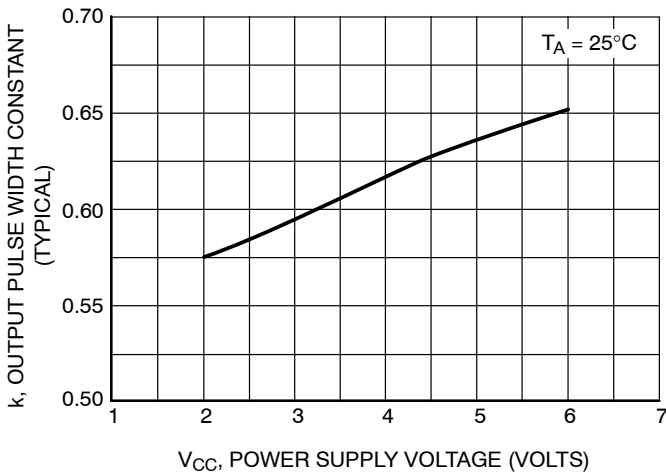

Figure 3. Typical Output Pulse Width Constant, k, versus Supply Voltage
*For output pulse widths greater than 100 μ s, typically $\tau = kR_xC_x$, where the value of k may be found in Figure 3.